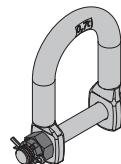
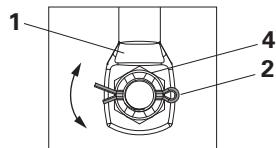

Fig. 18
Fig. 18a
4. Push the Bolt (3) through the holes of the Crane D-Ring (1). (Fig. 18)
5. Screw Castle Nut (4) on to the Bolt (3) in a clockwise direction.
6. Insert the Split Pin (2) through the hole in the Bolt (3) and spread pin arms. (Fig. 18a)